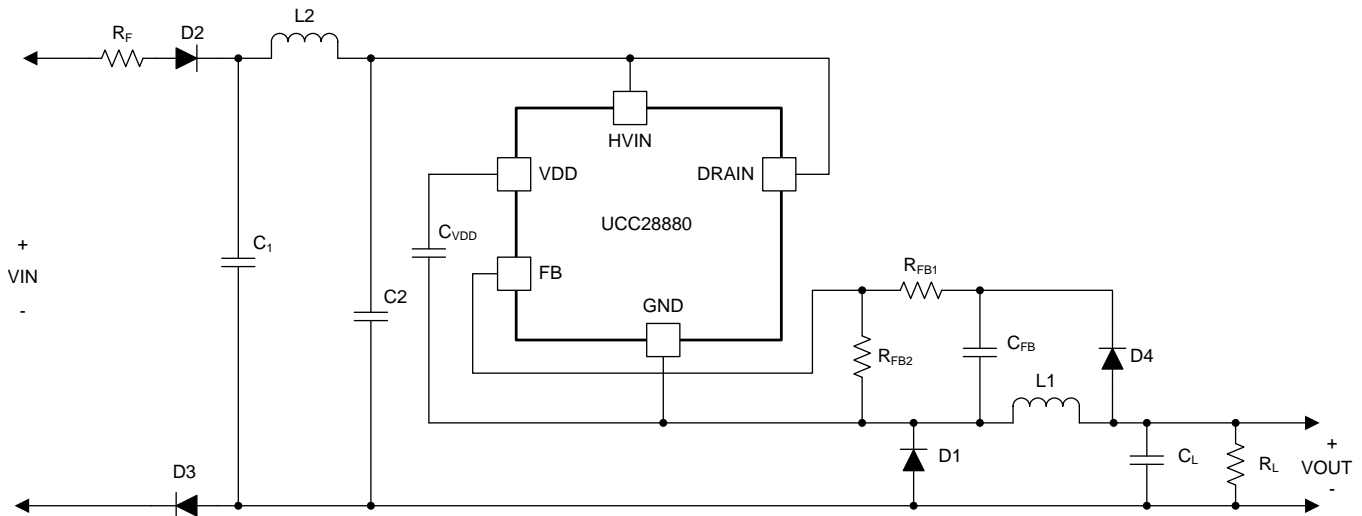

Figure 19. High-Side Buck Converter Schematic
Figure 19 shows a typical application example of a non-isolated power supply, where the UCC28880 is connected in a high-side buck configuration having an output voltage that is positive with respect to the negative high-voltage input (VIN-).
In low-side buck converter the output voltage is always sensed by the FB pin and UCC28880 internal controller can turn on the MOSFET on VOUT. In high-side buck converter applications the information on the output voltage value is stored on  $C_{FB}$  capacitor. This information is not updated in real time. The information on  $C_{FB}$  capacitor is updated just after MOSFET turn-off event. When the MOSFET is turned off, the inductor current forces the freewheeling diode (D1 in Figure 19) to turn on and the GND pin of UCC28880 goes negative at  $-V_{d1}$  (where  $V_{d1}$  is the forward drop voltage of diode D1) with respect to the negative terminal of bulk capacitor ( $C1$  in Figure 19). When D1 is on, through diode D4, the  $C_{FB}$  capacitor is charged at  $V_{OUT} - V_{d4} + V_{d1}$ . Set the output voltage regulation level using Equation 18.
- $R_{FB1}$ ,  $R_{FB2}$  is the resistance of the resistor divider connected with FB pin (see Figure 19)